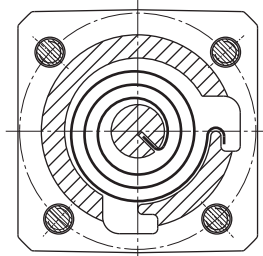

Figure 1
- 2 retaining grooves for the closing springs have been cast into the spring housing (733). The grooves are necessary for the different acceptance of the closing springs in the design variations "right-hand operation" or "left-hand operation".
- During installation the closing springs must first be placed in the spring housing (733). The positioning of the springs as per figure 1 and 2 must be observed.
- The closing springs are pretensioned correctly when all 4 fastening screws (732) can be fitted into the housing (approx half a turn of the spring housing). The valve flap must be in the closed position.